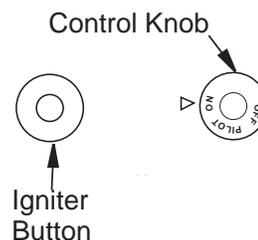

Figure 18 - Control Knob and Igniter Button Location
3. Press in and turn control knob clockwise  to the OFF position (see **Figure 18**).
5. Wait five (5) minutes to clear out any gas. Then smell for gas, including near the floor. If you smell gas, STOP! Follow B in the safety information, **Page 18**. If you don't smell gas, go to the next step.
6. Press in and turn control knob counterclockwise ↶ to the PILOT position. Press in control knob for five (5) seconds (see **Figure 18, Page 18**).